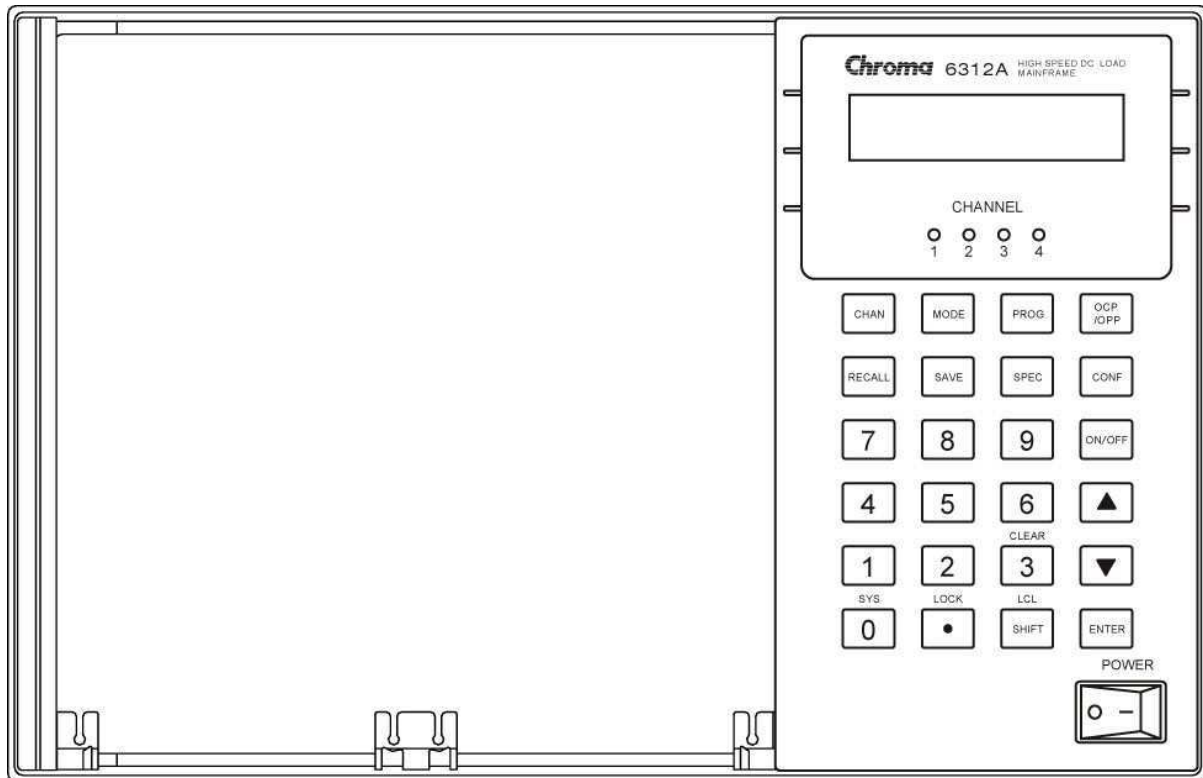

Figure 3-1 Front Panel of the Mainframe 6312A
The front panel of the mainframe includes a 16 × 2 character LCD display, 8 (4) channel indicators, and a keypad. All parameters of the load are set through mainframe. The LCD display also shows which function is being performed when you use the keypad. Three of the keys perform two functions. The alternative function is labeled in blue above the key. It is selected by pressing the blue **SHIFT** key and the function key simultaneously. Figure 3-1 shows the front panel of the mainframe 6312A.